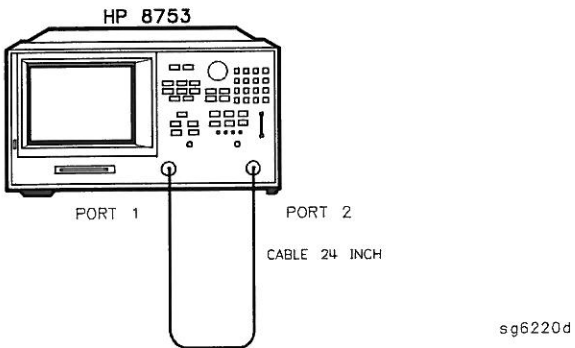

Figure 1-38. System Trace Noise Test Setup
- 1. Connect the equipment as shown in Figure 1-38.